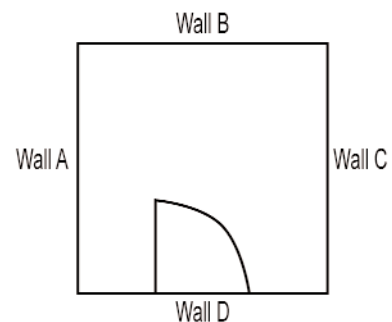

Figure 6
- a. Wall width should be measured at the bottom, center and top and provide the smallest measurement. Identified each wall. (A wall, B wall, C wall, D wall, etc. See Figure 6.)